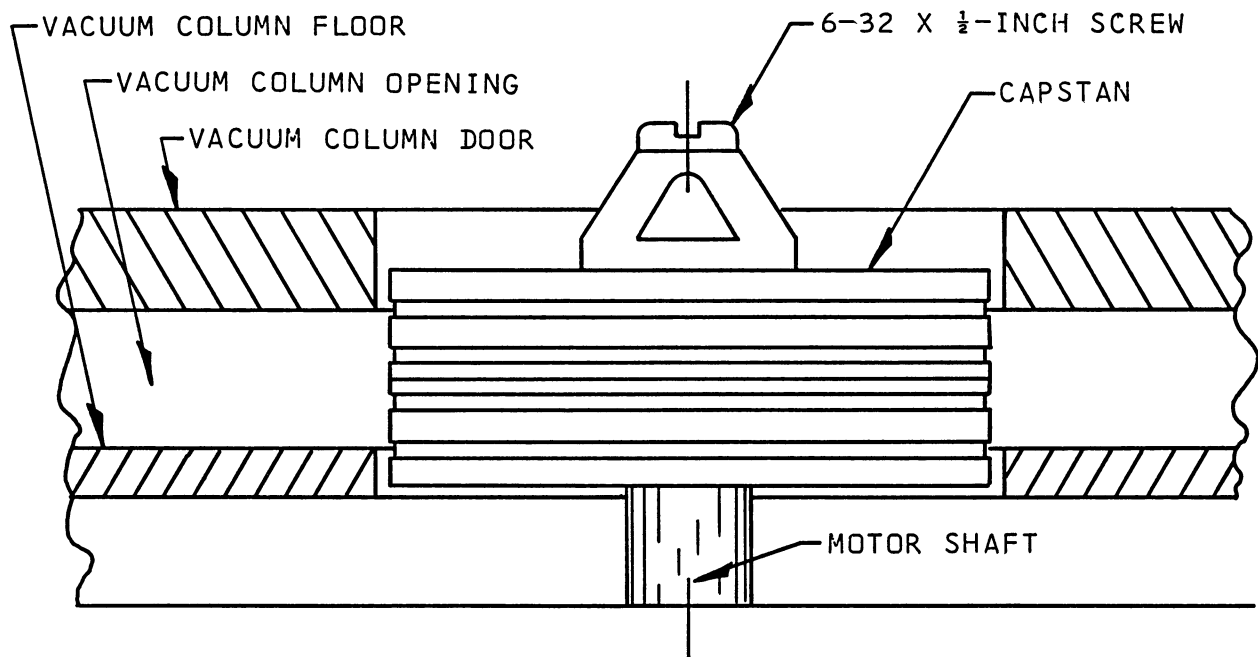

Figure 5-7. Replacement Capstan Positioning
- b. Install replacement capstan over motor shaft until resistance is felt. Insert 1/2-inch-long, 6-32 NC screw through hole in capstan hub, and screw it into threaded hole in motor shaft. Tighten screw until head of screw comes in contact with front of capstan to be pulled onto motor shaft. Tighten screw until capstan is centered evenly in vacuum column opening (see Figure 5-7).